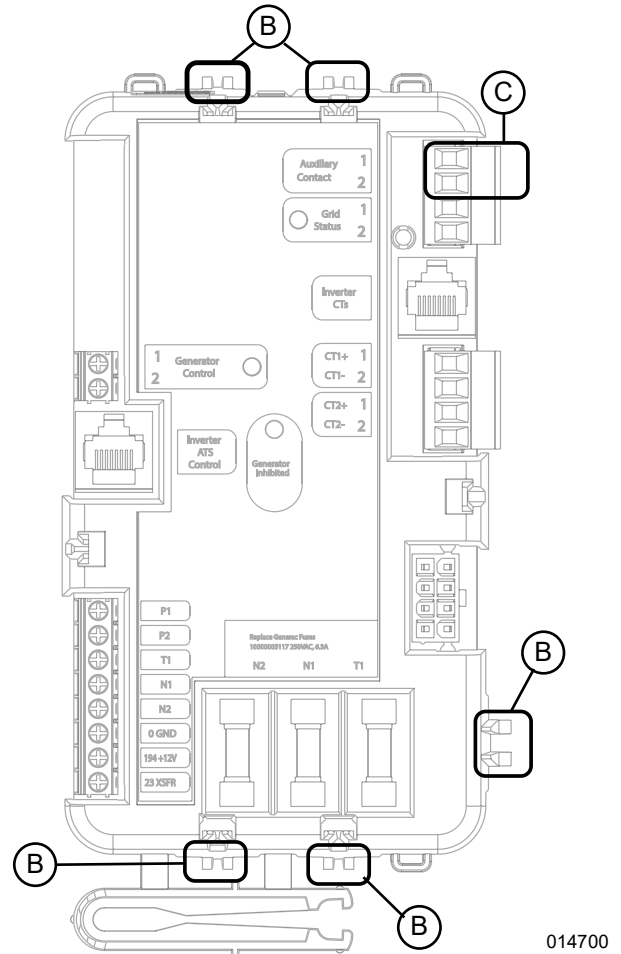
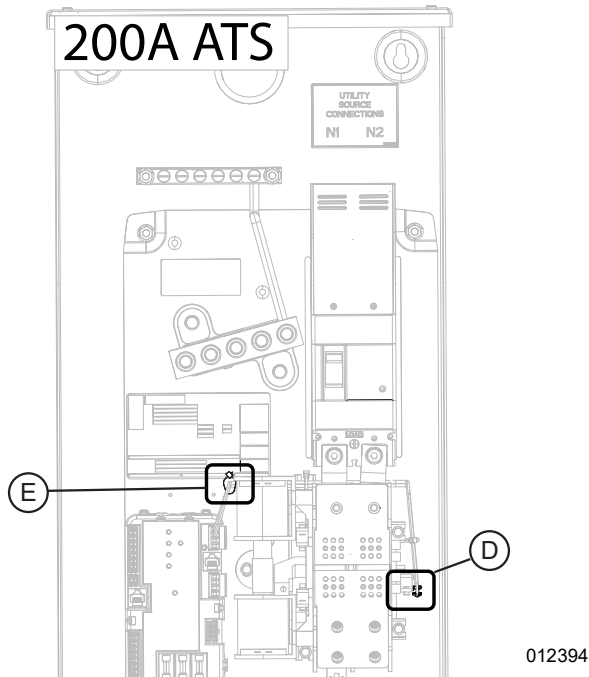
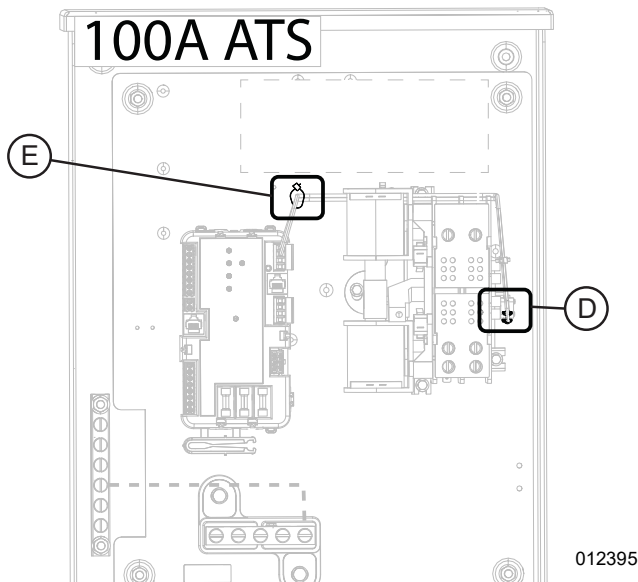

Figure 3. Installing the PWRcell ATS Controller
Figure 4. Zip Tie Wiring 200 A ATS
Figure 5. Zip Tie Wiring 100 A ATS
1. See Figure 3. Align the 5 snap fasteners on perimeter of the PWRcell ATS controller (B) with the snap inserts located in the ATS enclosure.
3. See Figure 4 and Figure 5. Place zip tie mount (E) in the appropriate location depending on the ATS model.
- If not pre-wired, run the appropriate wire from the Auxiliary Contact terminal in PWRcell ATS controller (labeled (C) in Figure 3) to Auxiliary Contact (labeled (D) in Figure 4 for the 200 A ATS and Figure 5 for the 100 A ATS).
- Use zip-tie to fasten wire to the zip tie mount (labeled (E) in Figure 4 for the 200 A ATS and Figure 5 for the 100 A ATS).
- In 200 A switches, the wire will need to be run beneath the ATS contact mechanisms (as shown in Figure 4).